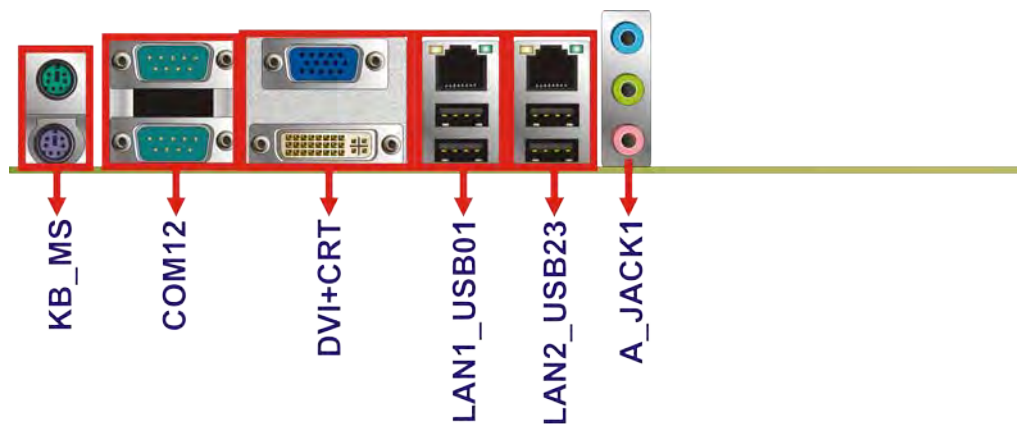

Figure 3-23: External Peripheral Interface Connector
CN Location: See **Figure 3-23**
- CN Location: See **Figure 3-23**